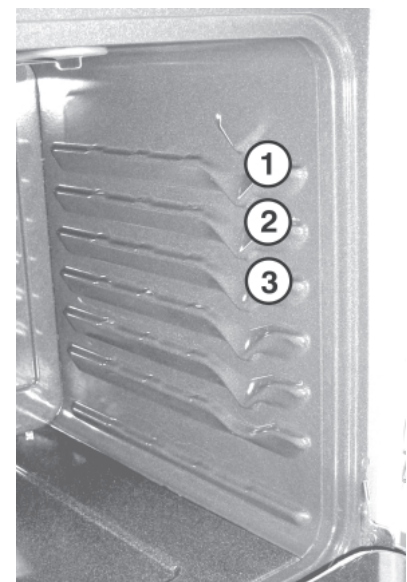

Fig. 3
## Broil Rack Position Table (Refer to Fig. 3)
3. Firmly grasp both sides of oven door along the door sides (Do not use the oven door handle - See Fig. 3).
1. Firmly grasp both sides of oven door along the door sides (Do not use the oven door handle - See Fig. 3).